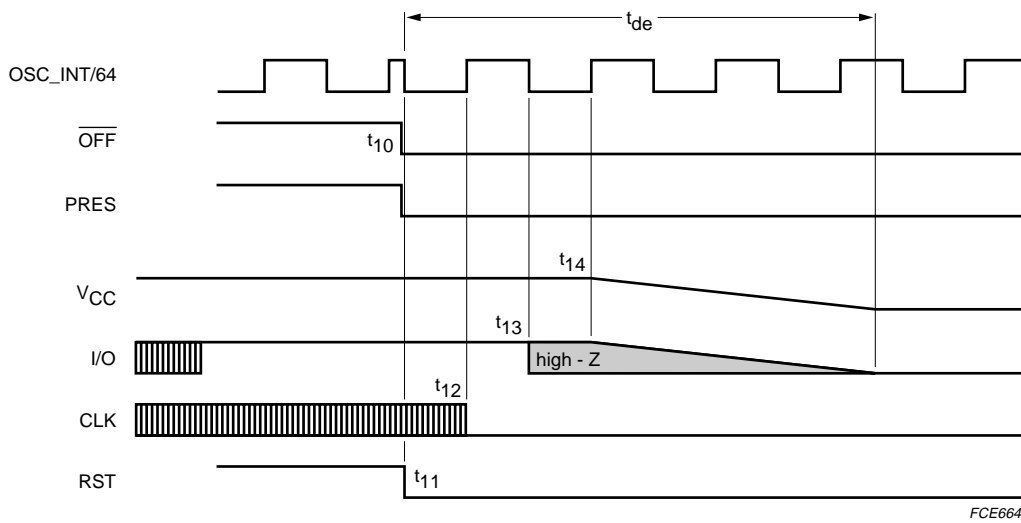

Fig.8 Emergency deactivation sequence.
2. $\overline{\text{CMDVCC}}$ LOW: (within a card session) then, $\overline{\text{OFF}}$ falls LOW if the card is extracted, or if a short-circuit has occurred on V_{CC}, or if the temperature on the IC has become too high. As soon as the fault is detected, an emergency deactivation is automatically performed (see Fig.8).